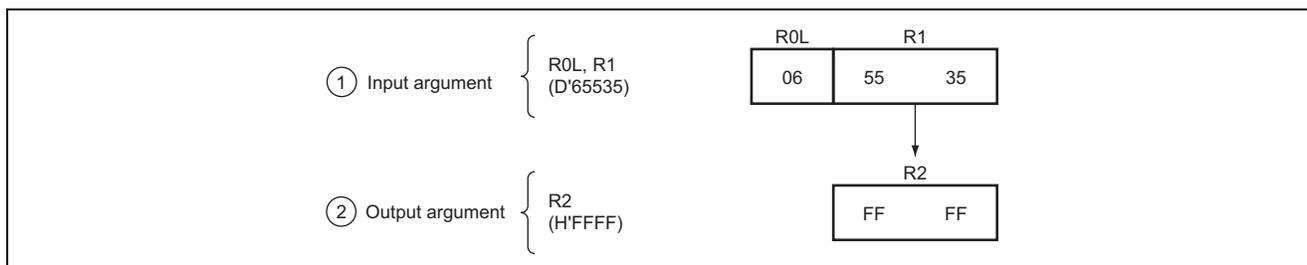

Figure 2 Example of BCD Execution
2. Figure 2 illustrates the execution of the BCD subroutine. When the input argument is set as shown below, the subroutine sets the corresponding two-byte hexadecimal number in R2.